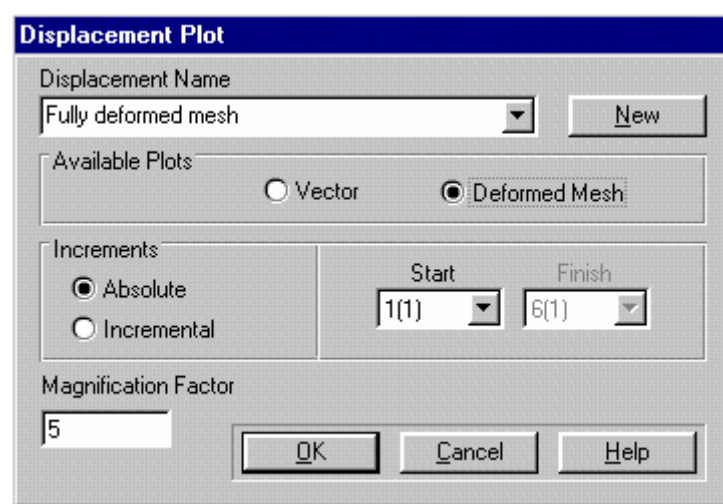

Figure 3-23 :Displacement Plot dialogue box
- Step 5** Enter a Magnification Factor of 5. The Displacement Plot dialogue box will then appear as shown in Figure 3-23.